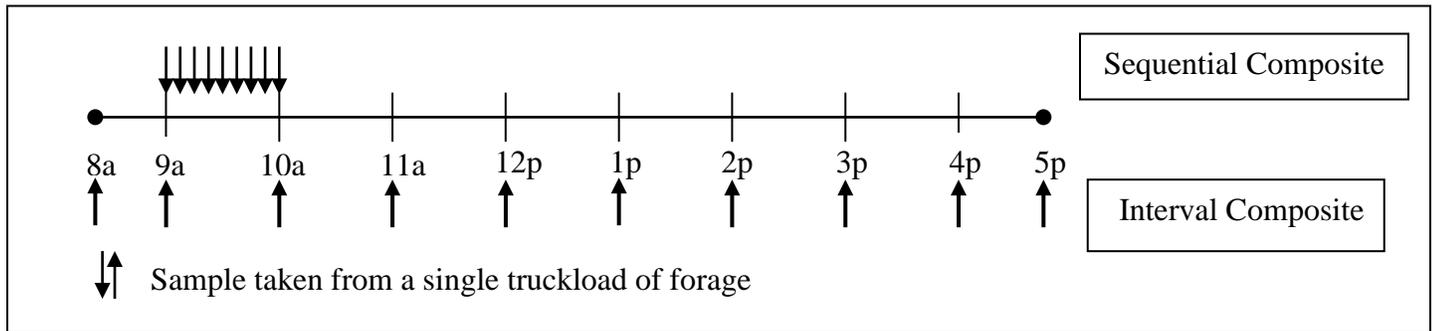

Figure 1. Example of truckload samples taken to create Sequential (top) and Interval (bottom) composites.
Our objective was to determine if differences exist in calculating dry matter (DM) removal based on various intensities of sub-sample and composite collection. We collected a representative sample and noted the forage weight from every truck unloaded from a single corn field on three dairies. Actual DM removed was calculated by summing truckload weight x DM for all collected samples. Field DM removal totals were calculated using two composite sampling methods (sequence and interval). Sequence values are the average of sample DM within an hour of harvest; for example, forages from trucks that unloaded between 9a and 10a (see **Figure 1**). Interval values are the average of every 10th sample collected, for example, forage that was unloaded at 9a, 10a, 11a, etc.
When *Mycoplasma spp.*, *Strep. ag.* or *Staph. aureus* are identified in BTM, it almost always indicate that there are infected quarters in the herd. *Staphylococcus aureus* is shed in low numbers and an attainable goal is less than 50 CFU/mL. BTM pathogen culture results from Jan-08 to Dec-08 are presented in **Figure 1**.